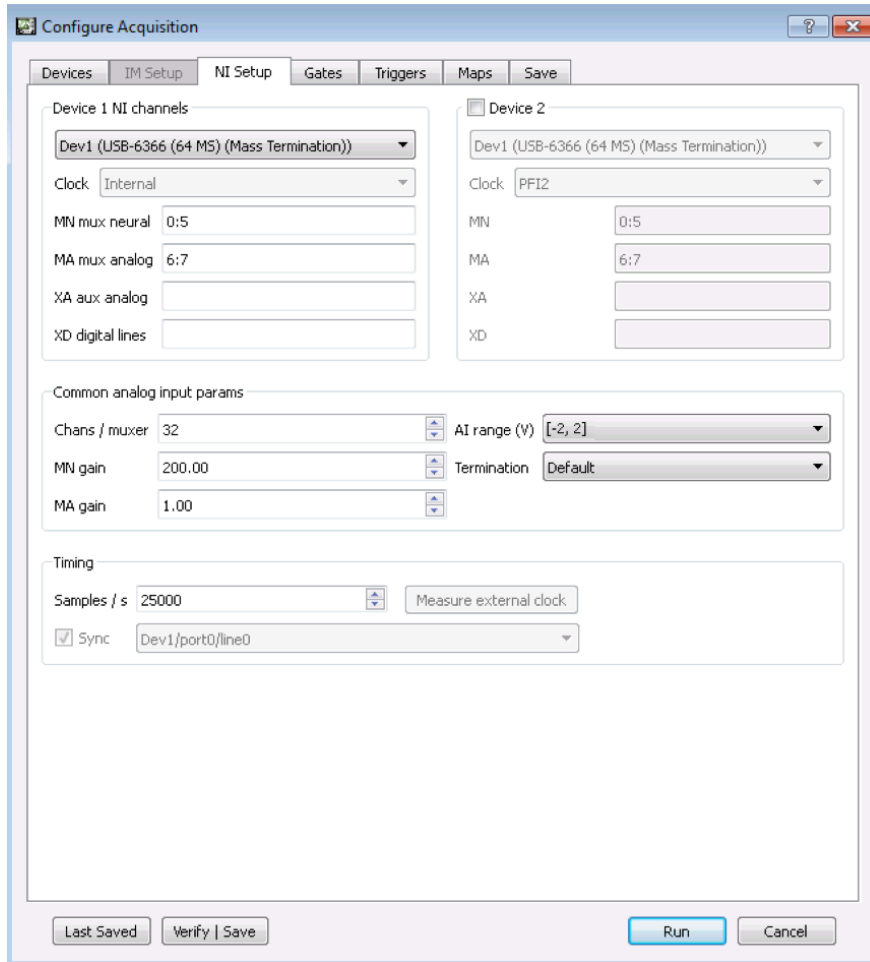

Figure 24: NI Setup Tab with the default setup for WHISPER
- p. Click on the **NI Setup** tab. The default setup is shown in Figure 24.